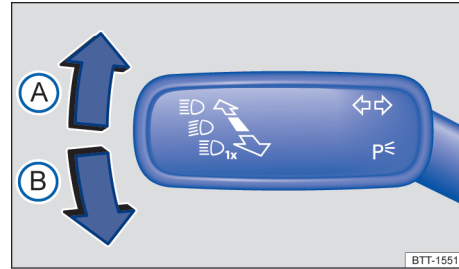

Fig. 64 Left side of steering column: turn signals/headlight main beam lever
- Move the turn signals/headlight main beam lever → Fig. 64 from the middle position to the following position: